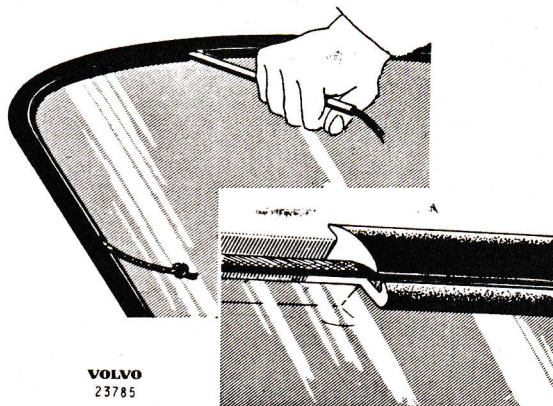

Fig. 32. Fitting the cord for the garnish molding.
1. Place a cord in the groove in the rubber weatherstrip as earlier done when fitting the glass, see Fig. 32. NOTE. This assumes the glass is in position in the body.